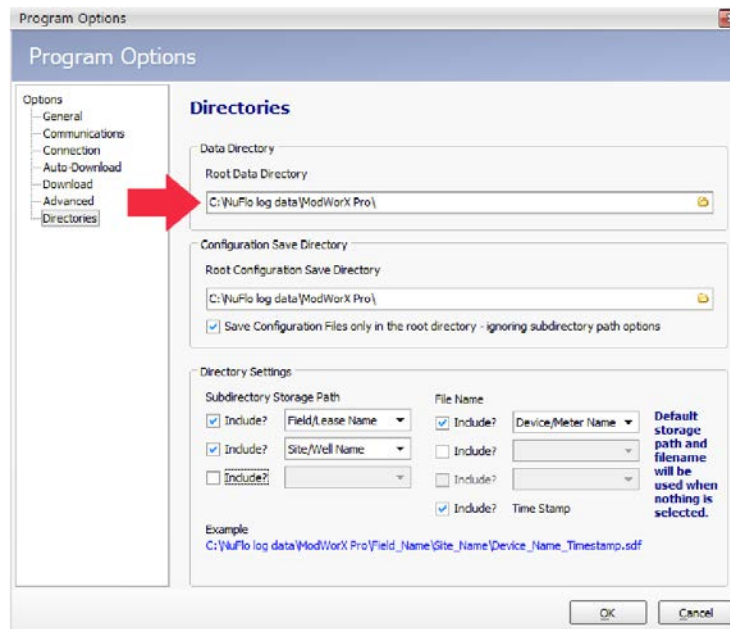

Figure A.25
- To change the directory to which non-configuration data is saved, click in the Data Directory portion of the dialog (Figure A.25), type the desired filepath or click the Folder icon to browse to the desired directory.